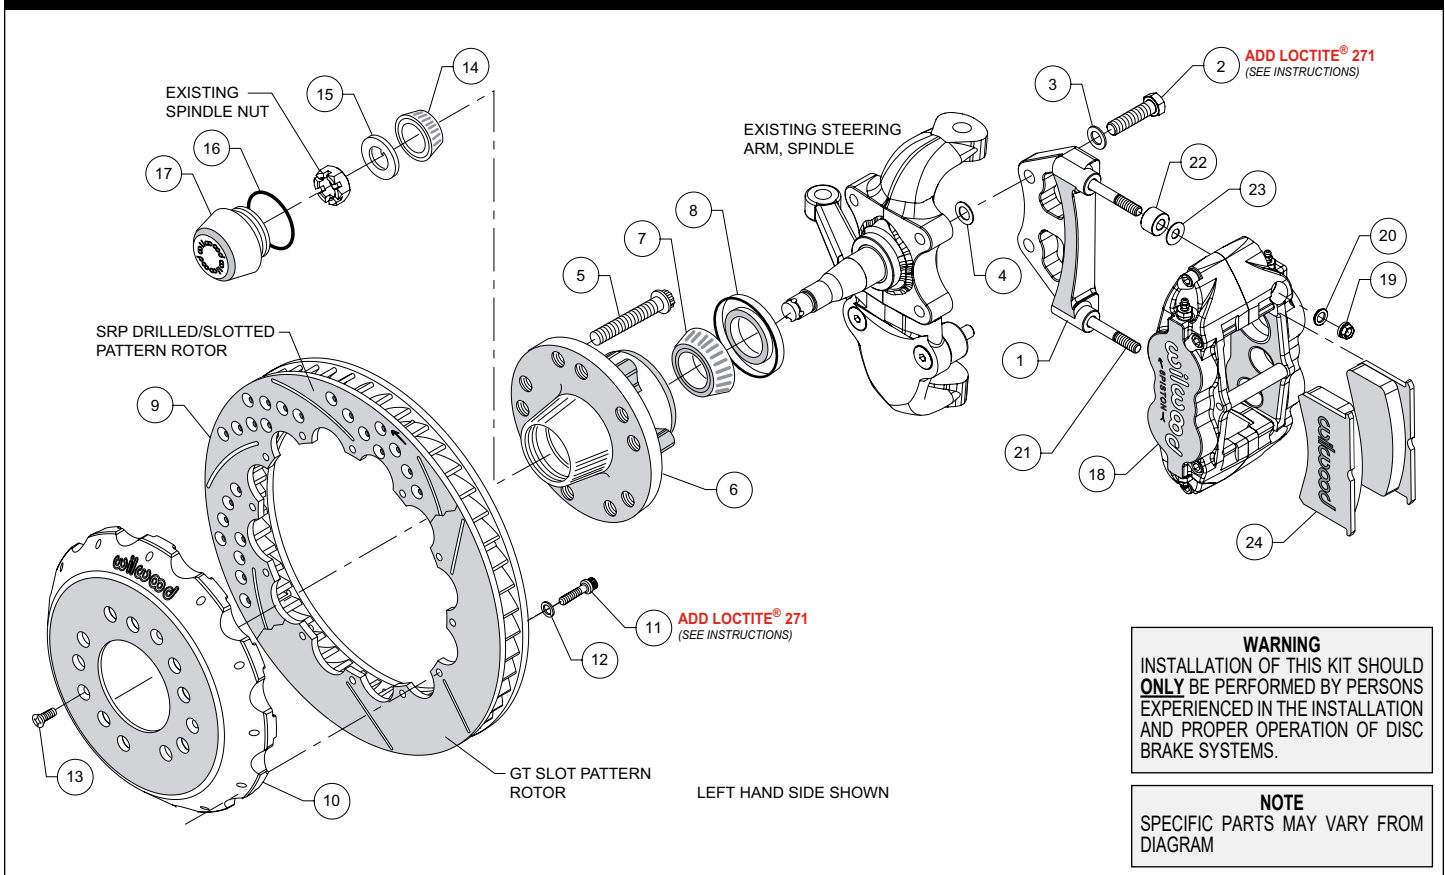
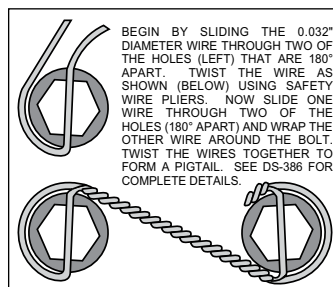

Figure 1. Typical Installation Configuration
Figure 3. Safety Wire Diagram
NOTE: Numbers in parenthesis refer to the parts list and Figure 1 on the preceding pages.
- The caliper mount bracket (1) should initially be installed with clean, dry threads on the mounting bolts. Orient the bracket as shown in Figure 1, and install using bolts (2) and washers (3). Initially place one .032" thick shim (4) on each bolt between the bracket and upright, Figure 1 and Photo 1. Temporarily tighten the mounting bolts. **NOTE:** The bracket must fit squarely against the mount bosses on the upright. Inspect for interference from casting irregularities, machining ridges, burrs, etc. Later, after the caliper alignment has been checked, the mount bolts will be secured using red *Loctite*® 271.
- Install wheel studs (5) into the hub (6), Photo 2. Torque to 77 ft-lb. **NOTE:** There are two five lug patterns in the hub (5 x 4.50 and 5 x 4.75). Ensure the correct hub stud pattern is being used to fit the wheel application.
- Pack the large inner bearing cone (7) with high temperature disc brake bearing grease (available from your local auto parts store) and install into the backside of the hub (6), Photo 3.
- Install the grease seal (8) by pressing into the backside of the hub (6), flush with the end of the hub, Photo 3.
- Orient the rotor (9) and the hat (10) as shown in Figure 1 and Photo 4. Attach rotor to hat using bolts (11) and washers (12). Apply red *Loctite*® 271 to the bolt threads and torque to 155 **in-lb** using a criss-cross pattern. For an added measure of security, the bolts may be safety wired using standard 0.032 inch diameter stainless steel safety wire as shown in Figure 3. Refer to Wilwood's data sheet DS-386 (available at www.wilwood.com/Pdf/DataSheets/ds386.pdf) for complete safety wire installation instructions.
- Pack the small outer bearing cone (14) with high temperature disc brake bearing grease and install into hub (6). Slide the hub assembly onto the spindle. Secure using spindle washer (15) and OEM spindle nut, Photo 5. Bearing adjustment: Tighten the nut while turning the hub. When there is a slight bind on the bearings, they are seated correctly. Back the nut off about 1/6 to 1/4 of a turn, or sufficiently to allow .001" to .007" end play. **WARNING:**
- NOTE:** This kit contains distinct right and left hand calipers that must be mounted in a specific direction, as described below. Initially place one .035" thick shim (23) and one spacer (22) on each stud (21) between the caliper and the bracket, as shown in Figure 1 and Photo 7. Mount the caliper (18) onto the bracket (1) using lock nuts (19) and washers (20), Figure 1. Ensure that the caliper is mounted so the largest pistons are at the rotor exit end of the caliper, in relation to the direction of rotor rotation. Temporarily tighten the lock nuts and view the rotor through the top opening of the caliper. The rotor should be centered in the caliper, Photo 8. If not, adjust by adding or subtracting shims (4) between the bracket and the upright. Always use the same amount of shims on each of the two mounting bolts. Once the caliper alignment is correct, remove the bracket mounting bolts (2) one at a time, apply red *Loctite*® 271 to the threads, and torque to 90 ft-lb.